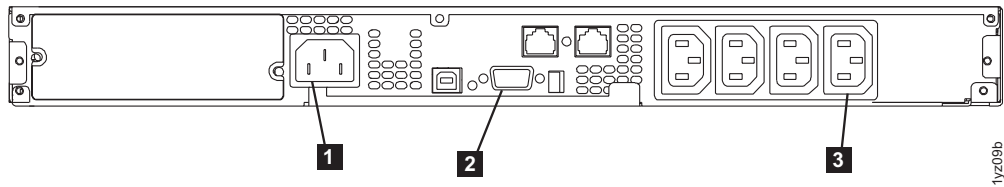

Figure 238. 2145 UPS-1U (rear view)
9. At the back of the 2145 UPS-1U, connect the SAN Volume Controller power cable to load segment 2 receptacle (3 in Figure 238 on page 250). If applicable, install the power cable retention bracket (shown in Figure 237 on page 250).
10. Reconnect the SAN Volume Controller signal cable to the communication port (**2** in Figure 238).
11. Reconnect the 2145 UPS-1U main power cable, from either the power distribution unit or from the redundant ac-power switch, into the input connector (**1** in Figure 238).
The 2145 UPS-1U is now in standby mode with the SAN Volume Controller offline. All indicators that are shown in Figure 238 are off.